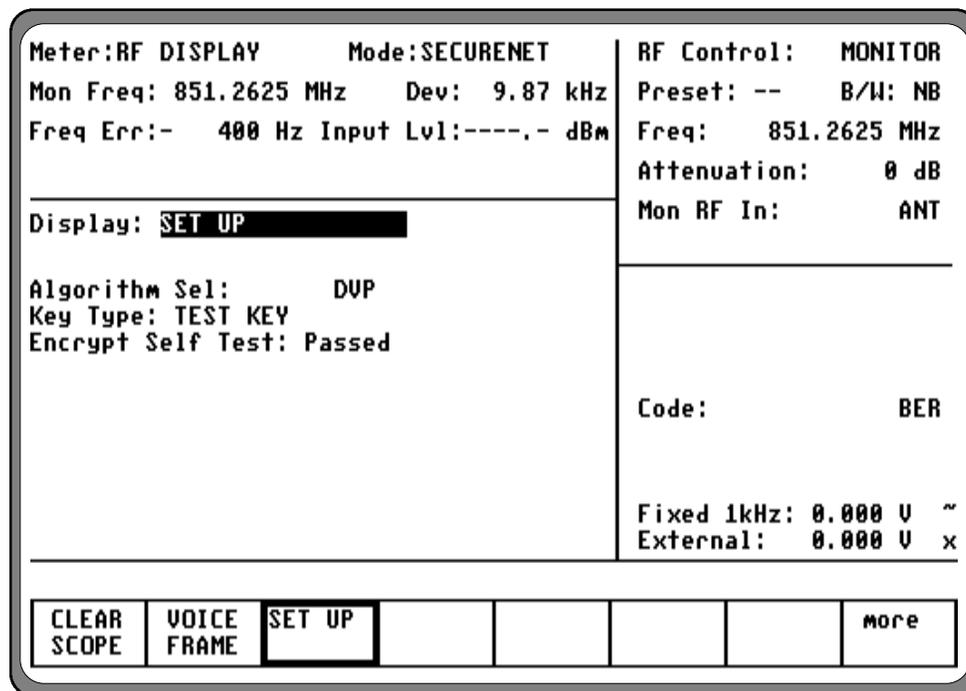

Figure 13-6. SET UP Display Screen
The SET UP display places the analyzer in encryption setup mode and allows the operator to select the desired algorithm. SET UP display is accessed from the Display Zone. To use SET UP display, move the cursor to the "Display:" field and select SET UP using the **SET UP** softkey. The Display Zone will show a menu of SET UP options as shown in figure 13-6.
A self test of the encryption functions is performed at power up. The "Encrypt Self Test:" field in the SET UP display (figure 13-6) indicates the results of the self test, passed or failed.
To program the radio with a test key, place the cursor in "Display:" field in the Display Zone. Select SET UP using the **SET UP** softkey. This accesses the SET UP display screen (figure 13-6).
**SET UP** softkey. This will access the SET UP display screen (figure 13-6).